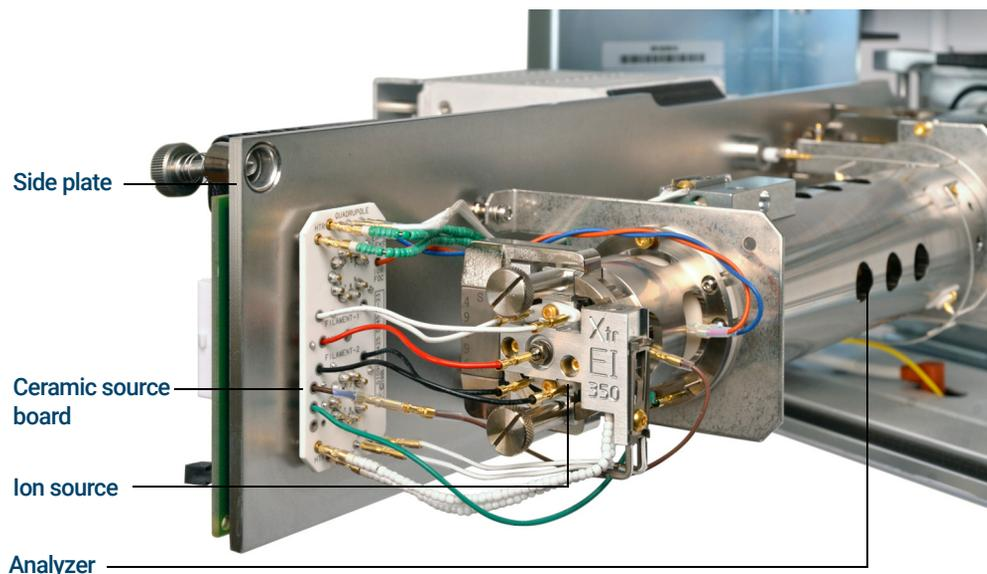

Figure 34. The analyzer chamber for an Inert+ model MSD
- 3 Loosen the analyzer side plate thumbscrews if they are fastened. (See **Figure 34.**)